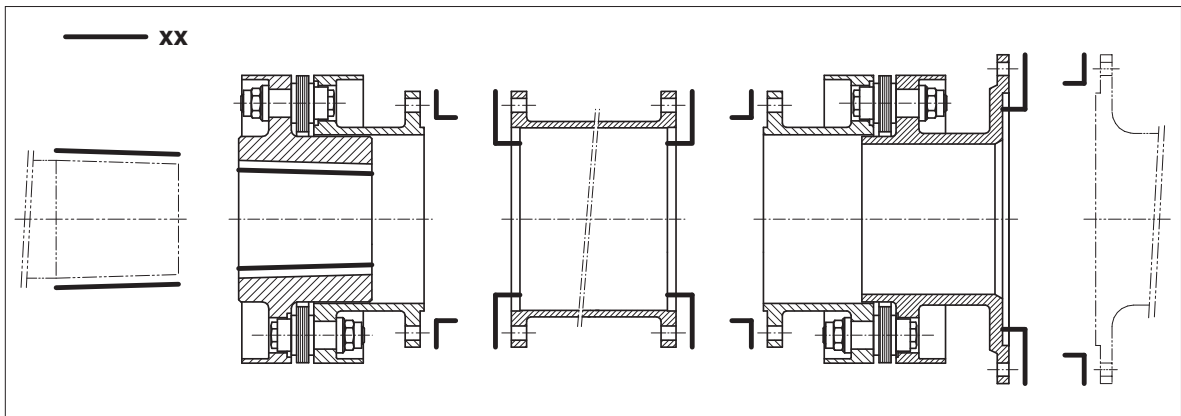

Fig. 19: Preparing the surfaces
- Before starting the fitting the **contact surfaces of all the coupling parts** and the **customer's connecting flanges** and the **shaft ends** and **hub bores** must be freed of any rust-preventive medium and carefully cleaned (see figure 19).